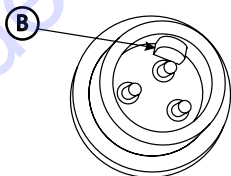

Figure 14. Male Connector
3. On the corresponding male connector, locate the key tab (B) as shown in Figure 14.